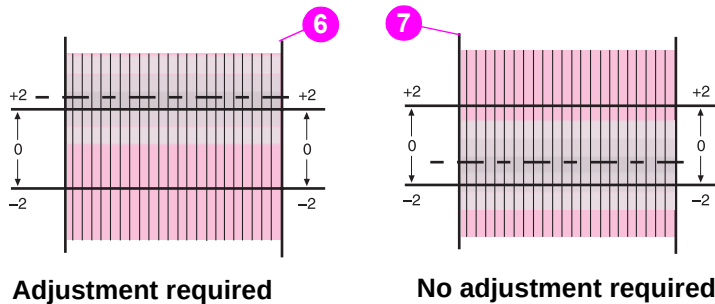

Figure 124. Interpreting the laser/scanner adjustment page
- 2 If any of the numbers under the *Laser/Scanner Adjustment Step 1* is not a zero (callout 4; figure 124) or if the center of any of the three gray bands under the *Laser/Scanner Adjustment Step 2* is outside of the zero range for any of the three colors (callout 5; figure 124), a laser/scanner adjustment is required.
The position of the center of the gray bands under the *Laser/Scanner Adjustment Step 2* are interpreted as shown in figure 124. Callout 6 shows that the center of the gray band for the magenta laser/scanner falls outside of the zero range, meaning that a laser/scanner adjustment is required. Callout 7 shows that the center of the gray band falls inside of the zero range, meaning that a laser/scanner adjustment is not required.
If you are unsure of how to interpret the *Laser Scanner Adjustment Step 1* part of the adjustment page, see figure 124.
The position of the center of the gray bands under the *Laser Scanner Adjustment Step 2* is interpreted as shown in figure 124. Callout 1 shows that the center of the gray band falls outside of the zero range, meaning that a laser/scanner adjustment is required. Callout 2 shows that the center of the gray band falls inside of the zero range, meaning that a laser/scanner adjustment is not required.